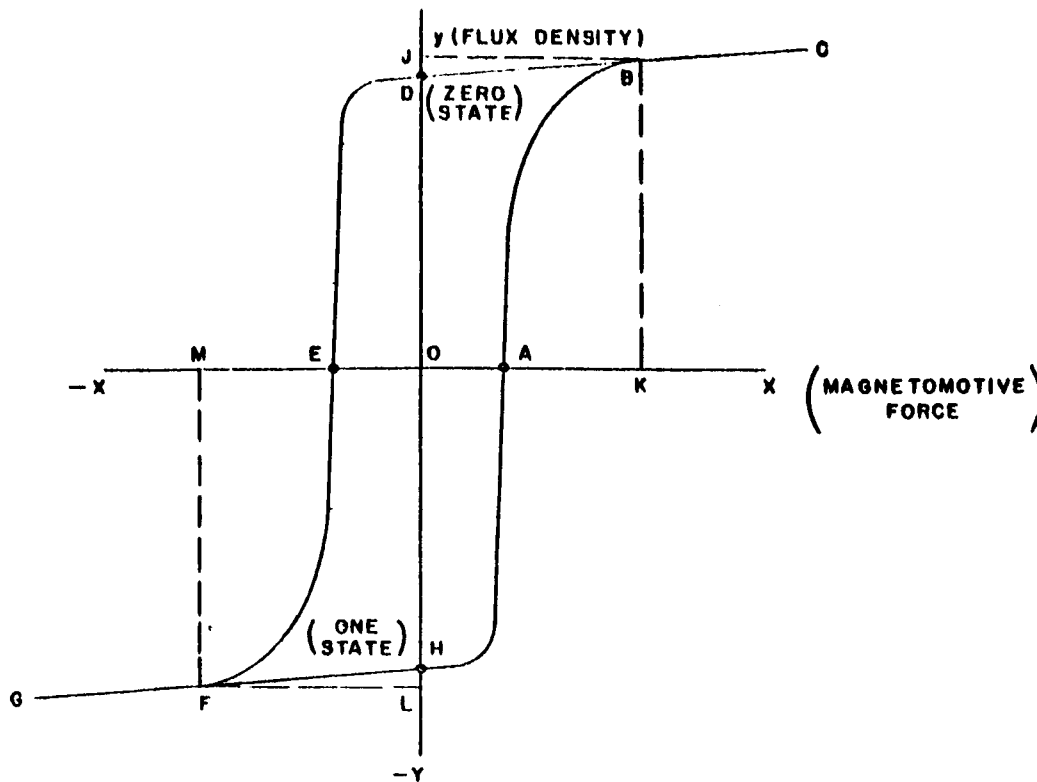

Figure MN-1. Square Hysteresis Loop
A component commonly used in digital data handling equipment is a magnetic core. The term magnetic core is usually applied to a small torroid composed of magnetic material which has high permeability and also high retention. This material will have what is called a square hysteresis loop, shown in Point A, Figure MN-1. Because of this square hysteresis loop, there are two stable energy states, which make the cores adaptable to digital circuits. Magnetic cores are commonly used for shift registers, "and" gates, "or" gates, and other logic circuits, in addition to their use as blocking oscillator transformers.
a. The action of a magnetic core can best be described by referring to the drawing of the hysteresis loop (Figure MN-1). The magnetomotive force, or ampere-turns, applied to the winding of a core is measured along the X axis. Magnetic flux density (gausses), or flux lines per square centimeter, is being measured along the Y axis. Once a core has been magnetized and had this magnetization reversed several times, the relationship between flux density and magnetomotive force is described by the hysteresis loop in Figure MN-1.
b. This positive going pulse applied to pin 1 results in ampere-turns driving the core beyond positive saturation (Point C in Figure MN-1). When the core drive pulse has passed, the core is left in state D, which is defined as "0" state. The voltage at pin 8 is normally maintained at -25v but is raised to approximately -16v to insert a "1" into the core. It can be seen that the current in the input winding, as a result of a positive going pulse applied to pin 8, will magnetize the core in an opposite direction to that of the drive pulse. The state of the core will go from D to G on the hysteresis loop (Figure MN-1), and when the input pulse is passed, the core remains at H, which is defined as a "1" state.
saturation, the core and its windings act as a transformer and the feedback winding continues to drive the transistor into saturation. When the core has finally reached saturation (B on hysteresis curve, Figure MN-1), additional ampere-turns from the collector winding will no longer result in a change of flux and no additional voltage will be generated in the feedback winding. This removes the drive to the transistor, which immediately cuts off, removing the ampere-turns from the collector winding.